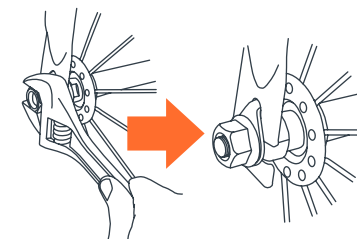

Fig. 4
- 4) •** With the wheel in position, install the axle nuts and tighten with standard crescent, box, or open end wrench. You should feel significant resistance and the wheel should be held tightly in place (Fig. 4).